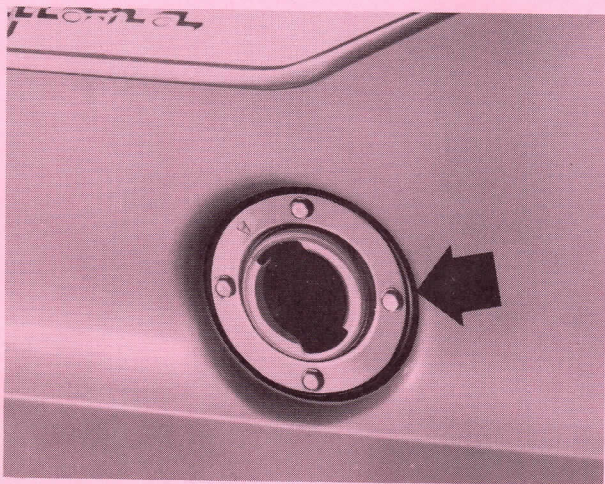

Fig. 1
1. Trim off any portion of the filler neck-to-quarter panel rubber gasket that protrudes beyond the lower portion of the filler neck flange to provide clearance between the gasket and the inner edge of the gas cap, see Figure 1. This prevents water from building up in the cap.